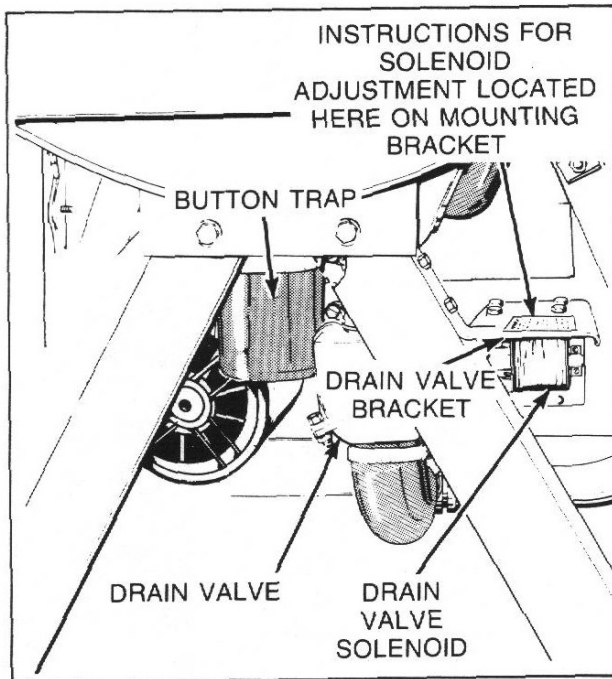

Figure 35
- h. Loosen clamps, then remove button trap, *Figure 35*, and drain hose from bottom of outer tub.